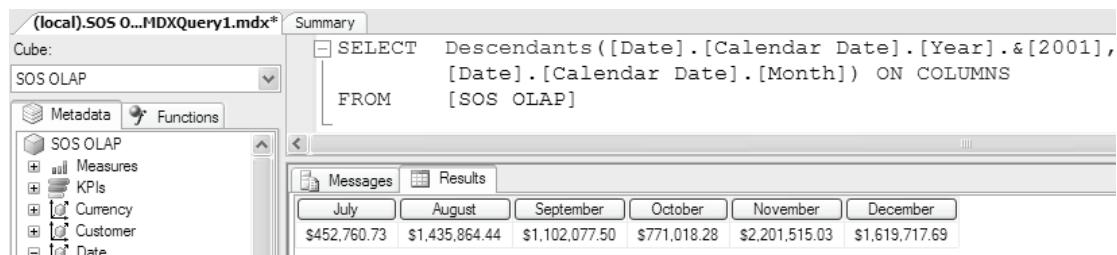

Figure 10.4 Use MDX queries to display and troubleshoot MDX sets.
4. In the MDX query pane, create a basic MDX query that projects the set expression on Columns (see Figure 10.4).